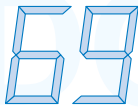

Figure X5.40
- 5.40 Redesign the MSI 74x49 seven-segment decoder so that the digits 6 and 9 have tails as shown in Figure X5.40. Are any of the digit patterns for nondecimal inputs 1010 through 1111 affected by your redesign?